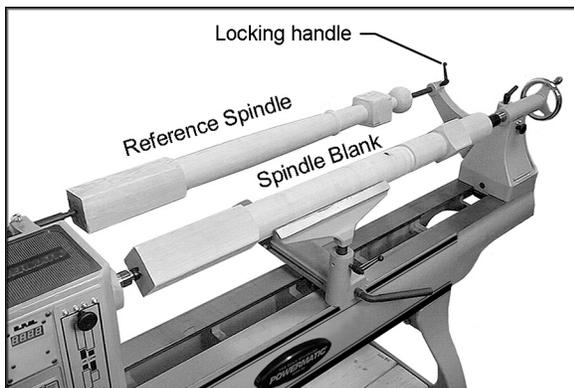

Figure 30
3. Install comparator dead center in the comparator bracket and tighten lock handle. See Figure 30.
5. Mount reference spindle between comparator centers, as shown in Figure 30.